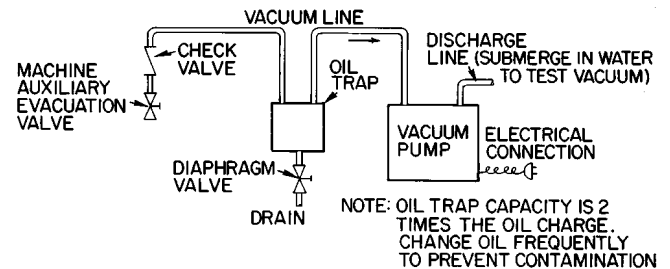

Fig. 28 — Machine Evacuation Device
1. Connect an auxiliary evacuation device to the auxiliary evacuation valve (Fig. 28). Use a line size at least equal to the connection size on the auxiliary device and keep the line as short as possible. *A check valve must be used on the suction lines. Be sure all connections are vacuum tight.*